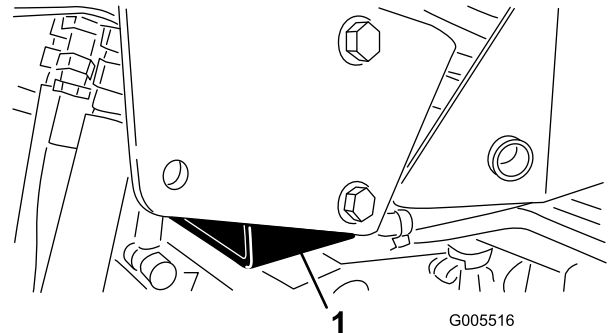

Figure 37
- Right side-under the ROPS (Roll Over Protection System) support bracket (Figure 37)